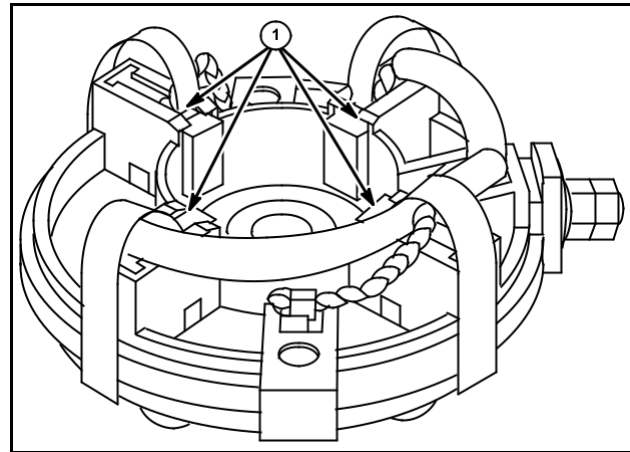

Fig. 46
1. Insert brush springs and brushes (1), Fig. 46, in holders as far as possible, and hold them in this position with brush retainers, Figs. 6, 46.